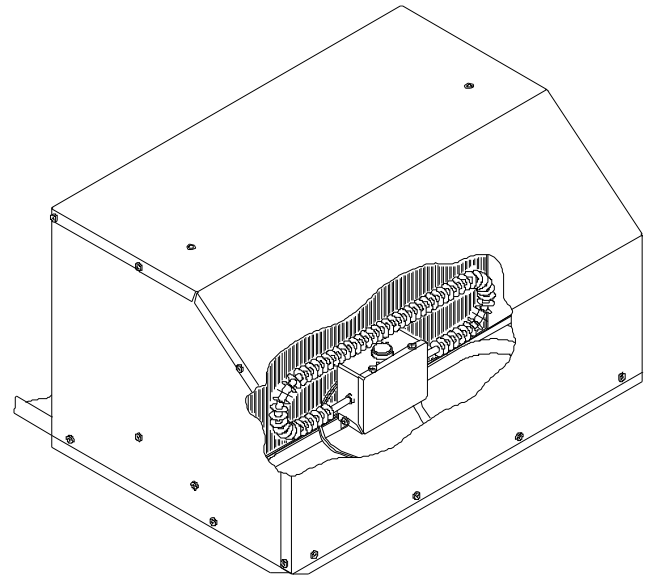
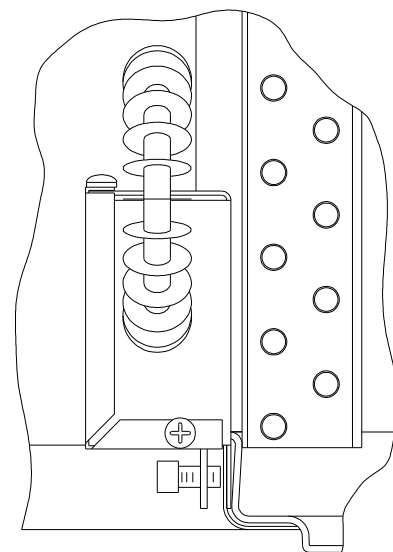

FIGURE 10
FIGURE 11
- C. Step "C" applies only if optional 9233*4551 Resistance Heat Kit is installed at this time. If installed, position the heater assembly in the heat pump return air opening as shown in Figure 10. The heater bracket must be installed over the metal basepan extrusion and positioned between the basepan and the plastic drain pan (See Figure 11). Tighten set screw to secure the assembly so as to prevent movement.